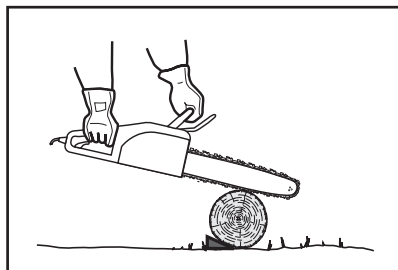

Fig. 34
- If the wood diameter is large enough for you to insert a soft bucking wedge without touching the chain, you should use the wedge to hold the cut open to prevent pinching (Fig. 34).